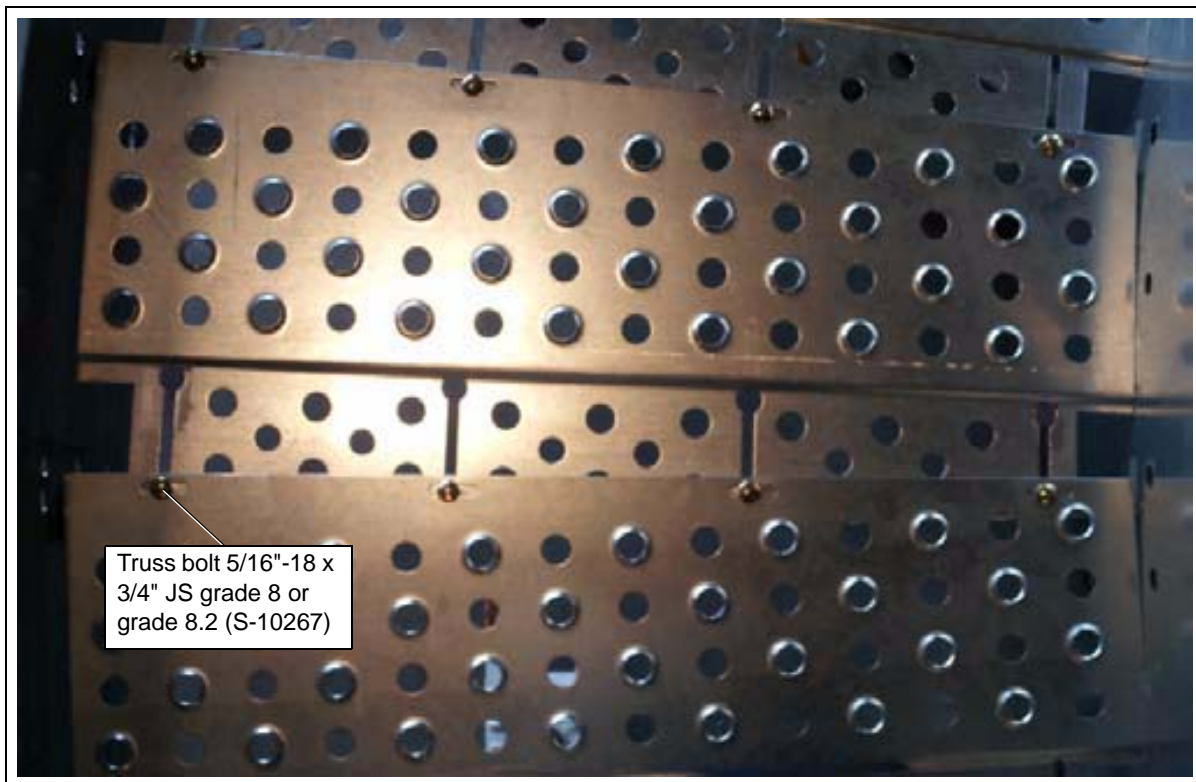

Figure 6Q
4. Each plank should be overlapped at the edges and bolted with 5/16"-18 x 3/4" JS grade 8 or grade 8.2 bolts (S-10267) and 5/16"-18 x 3/4" JS grade 5 nuts (S-10268). (See Figure 6Q.)